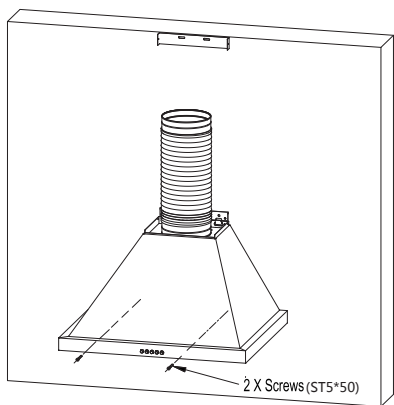

Fig.7
- After connecting the exhaust pipe well, open the filter and lock screws (ST5*50) to prevent the range hood from accidentally sliding off the installation plate. See Fig.7.